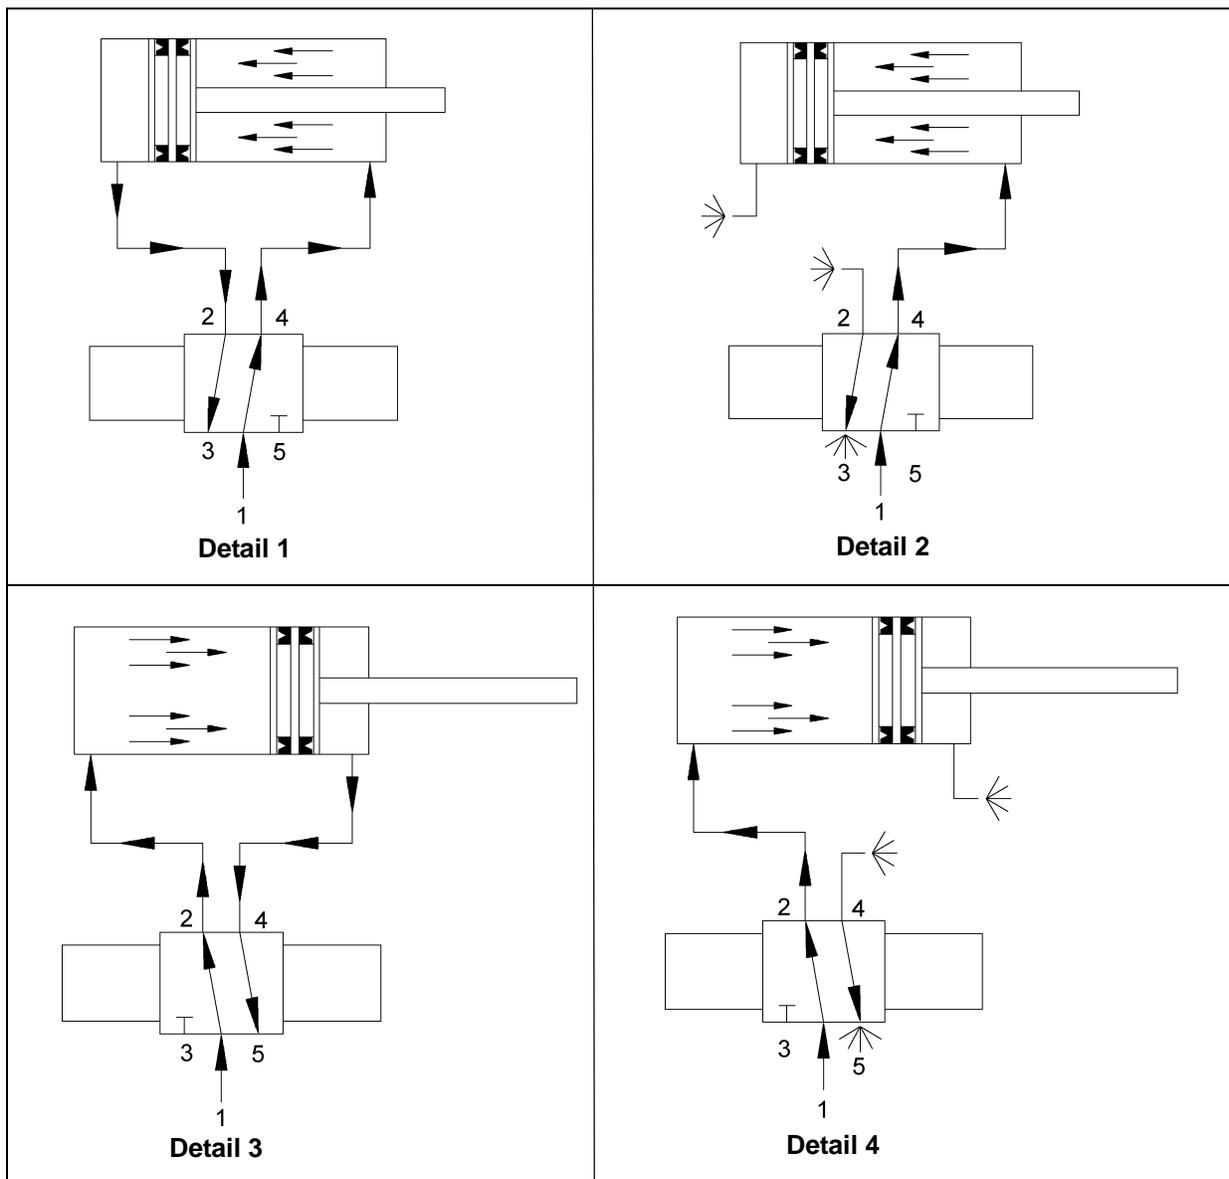

Figure 8B Valve Vs. Cylinder Leak Test Diagram
1. Cylinder retracted as shown *Detail 1* in Figure 8B on Page 35.
- i. Disconnect the line between Valve Cylinder Port "2" and the cylinder per *Detail 2* in Figure 8B on Page 35.
2. Cylinder extended as shown *Detail 3* in *Figure 8B*.
- i. Disconnect the line between Valve Cylinder Port “4” and the cylinder per *Detail 4* in *Figure 8B*.